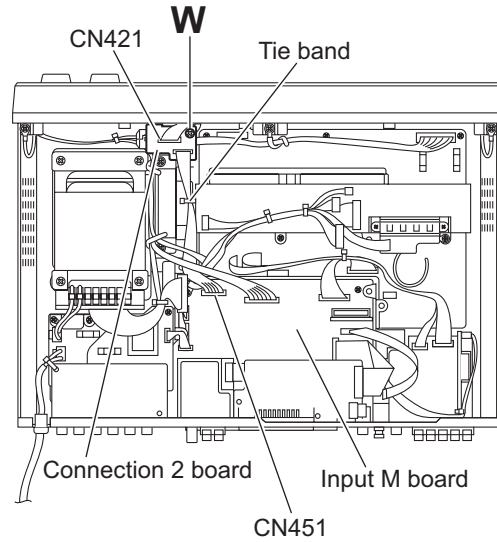

Fig.20
3.1.19 Removing the connection 2 board (See Fig. 20)